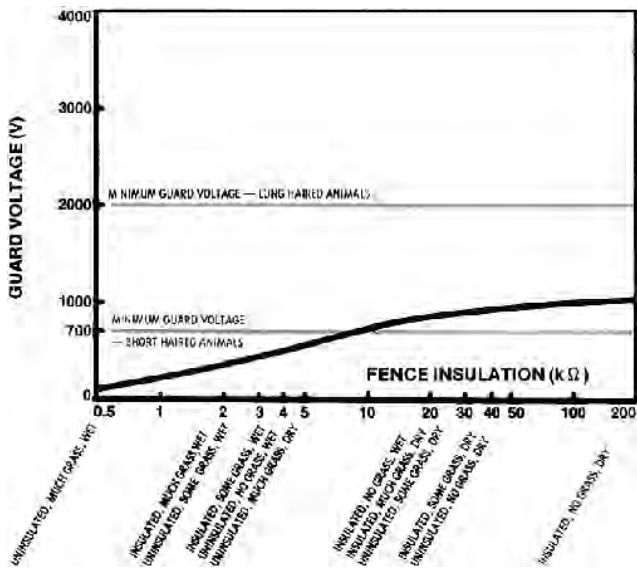

FIGURE 1. Guard Voltage Produced on a 5.4 km Single Wire Fence.
**Peak Voltage Output:** FIGURE 1 shows the peak voltage output of the Shur Shock 6 Volt Electro-Mechanical for a 5.4 km length of single wire fence over a range of insulation resistances. With the voltage switch in the low-position, peak voltage output varied from 1070 V for a well-insulated, grass-free, dry fence to 115 V for an uninsulated, wet fence with considerable grass touching the charged wire. The voltage output was above the 700 V minimum guard voltage needed for short-haired animals for fence insulation values greater than 8 k $\Omega$ , while it was below the 2000 V minimum guard voltage needed for long-haired animals for all fence conditions. From FIGURE 1, it can be seen that the Shur Shock 6 Volt Electro-Mechanical could be used to control short-haired animals if the fence is kept clean of plant growth during wet weather. A shorter fence would ensure more effective animal control.